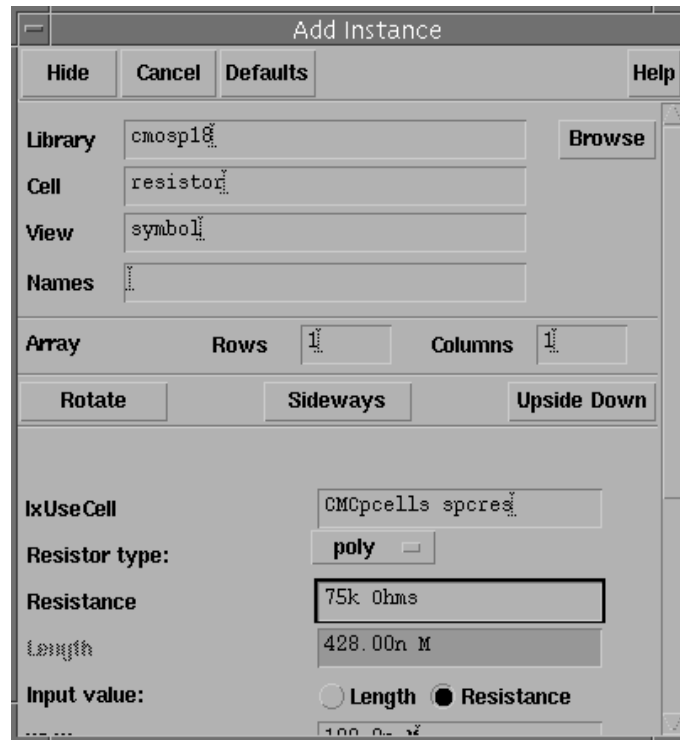

Figure 5: Add Instance Window - Resistor Cell
- In the Library Browser window, select the **cmosp18** library, the **resistor** cell, and **symbol** view. The Add Instance window should now look exactly like the one shown in Figure 5 (the resistance field maybe different on your window);
- Move the cursor to the Composer schematic window, the resistor symbol follows. Also, note that the Add Instance window has expanded to display other parameters. Before you click on the schematic window to place the resistor symbol, **edit the form, modifying the Resistance value to 75k Ohms**, as shown Figure 5. **IMPORTANT:** Do